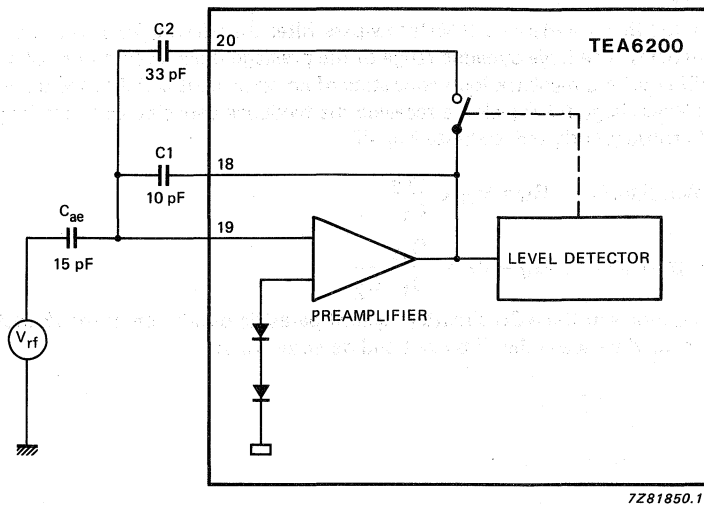

Fig. 4 Prestage circuit.
1. The prestage is connected to the aerial by a 6 MHz low-pass filter that decouples unwanted aerial cable resonance frequencies. The large dynamic range of the prestage is achieved by use of a transimpedance amplifier with a feedback loop consisting of an equivalent aerial capacitance and a feedback capacitor. When large RF signals are received the feedback capacitance in the loop is increased and the gain subsequently reduced, (see Fig. 4).